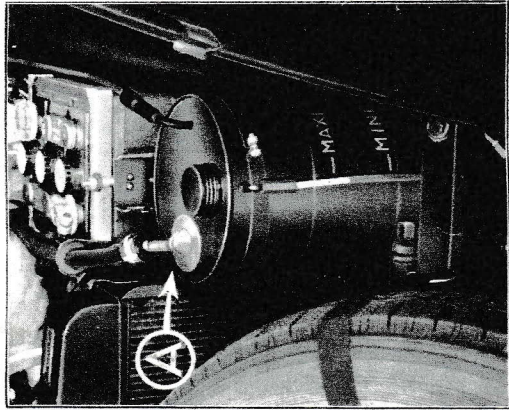
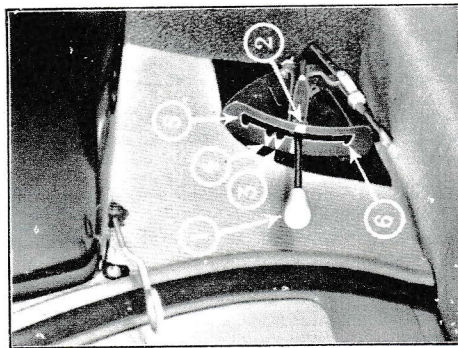

Figure 3 — Filter for hydraulic fluid
Figure 8
Pull the ring of the bonnet lock release under the dashboard (fig. 8).
**Hydraulic suspension fluid :** The level of the fluid in the reservoir located to the left of the radiator and in front of the battery should be between the minimum and maximum marks (on the transparent gauge (fig. 3). To read the level correctly, start the engine, put the lever 1 (fig. 8, page 14) in position 5, let the engine idle and wait until the car is stabilized at its extreme (position 5,
To increase the ground clearance by about 1", the lever 1 (fig. 8) which is normally in position 2 is moved to position 3. To increase it by a further about 2" it is moved to position 4.
- Move the lifting lever **1** (fig. 8) completely upwards; the car will rise slowly.
- Push down the lifting lever **6** completely (fig. 8) and wait until the wheels rise (the front and rear wheels on the side on which the stand is placed rise simultaneously).
- Move the lifting lever to the top position 5 (fig. 8).
- Move the lifting lever to the normal position (broad white strip 2 on the housing) (fig. 8).